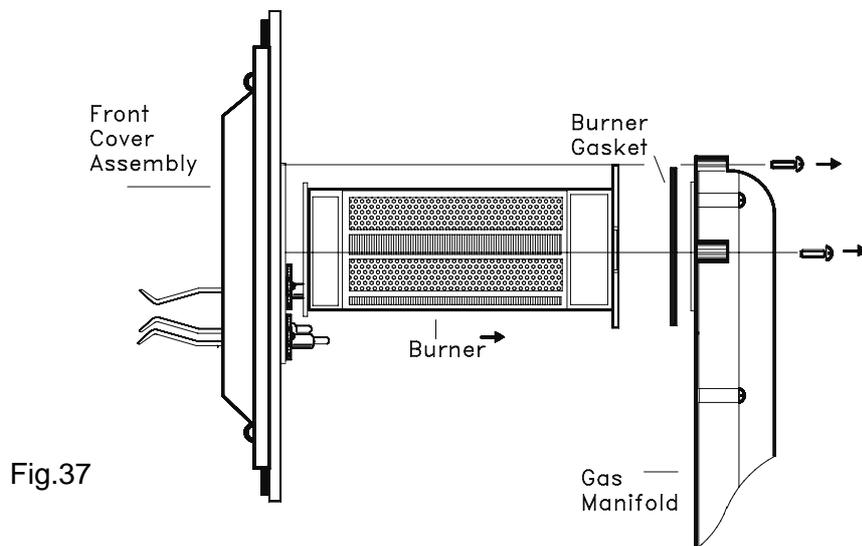

Fig.37
**8.5 TO REMOVE/REPLACE THE BURNER (FIG.37)**